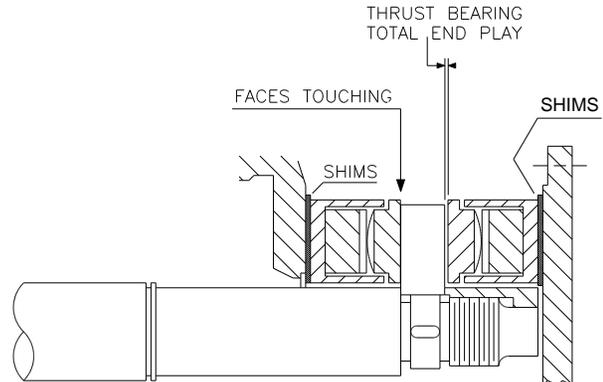

Figure 6-6
- j) Check that rotor is axially centralized, and establish total thrust end play (about 0.28 mm) by using shim or machining at inner face of thrust bearing cover. (See figure 6-6.)